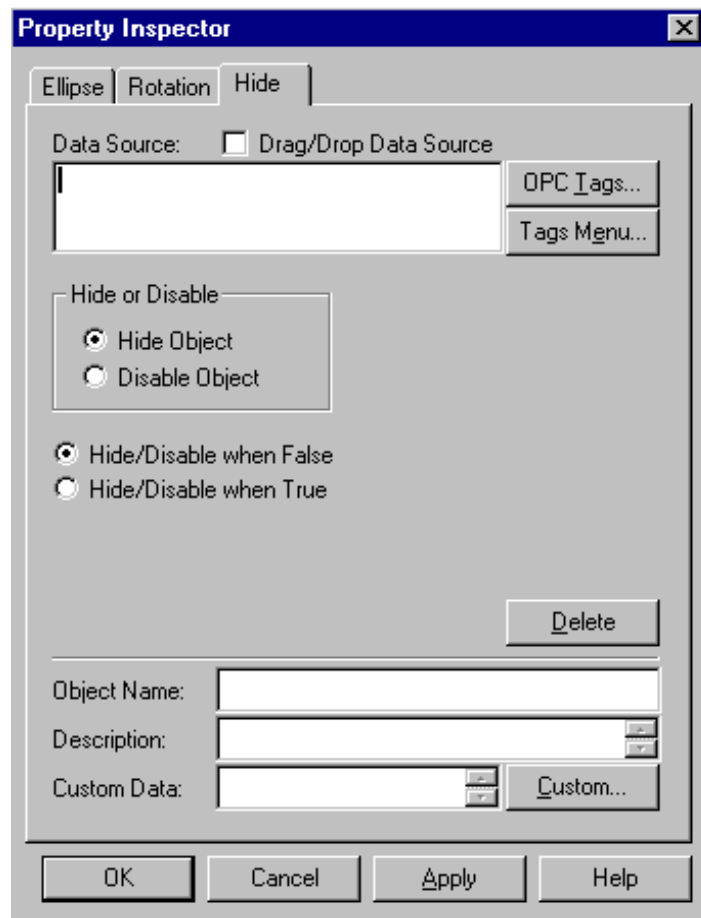

Figure 11-6: Property Inspector Dialog Box - Hide Tab
2. On the Dynamics menu, select Actions > Hide. The Property Inspector appears with the Hide tab (Figure 11-6).